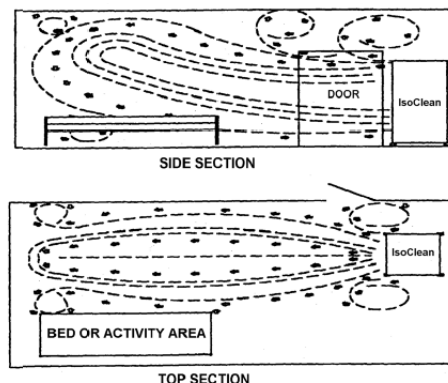

Figure 1: Recommended Hospi-Gard I soClean Positioning within a Patient Room
3. For maximum recirculation efficiency, the unit should be placed between the entry door and the patient’s bed or the activity area (see Figure 1 below). However, the unit will function effectively at other locations within the room.